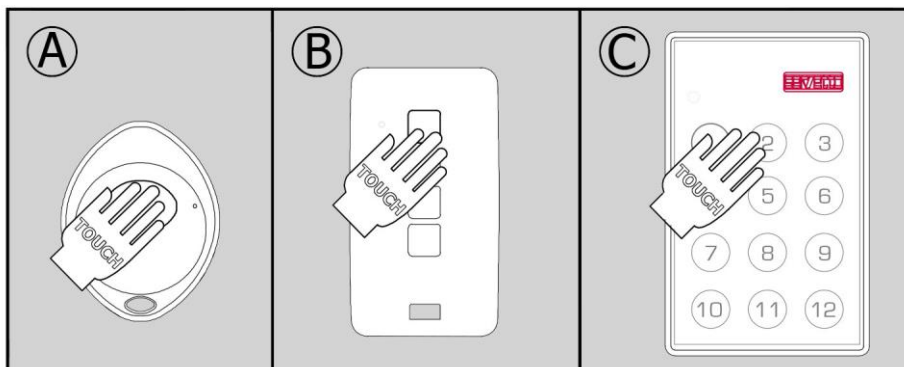

Fig. 23
- 2 - Press the desired button on the remote control (Fig. 23) and it will “BEEP” again.